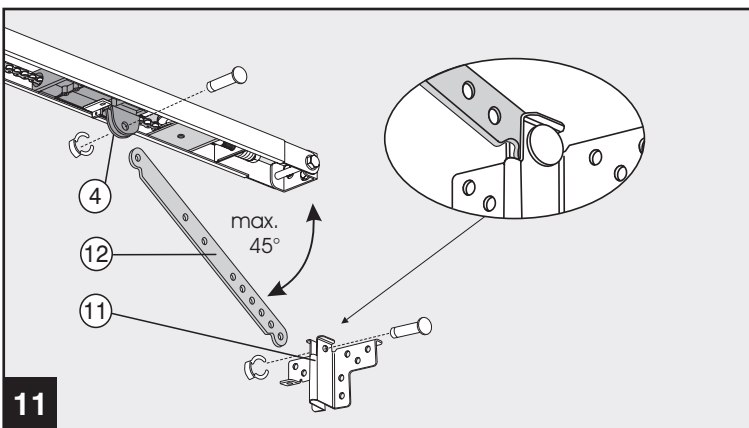

Fig. 11 - Joining the door connection bracket - running slide block
To enable the door to run freely beneath the running rail, the distance x must be greater than 20mm. Select distance x so that the angle of the connecting rod does not exceed 45° (see Figure 11). Transfer the highest point a of the door running track - determined during installation preparation - plus distance x , to the lintel. Hold the wall fixing (10) at the full height ($a + x$) vertically above the door connection bracket and mark the fixing holes. Drill the holes for the dowels with a 10mm masonry drill and screw on the wall fixing.